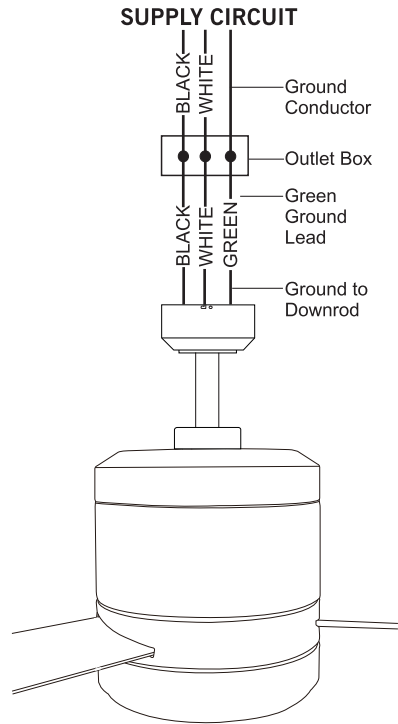

Fig.13
Step 1 Connect the fan supply (black) wire to the black household supply wire as shown in (Fig.13).